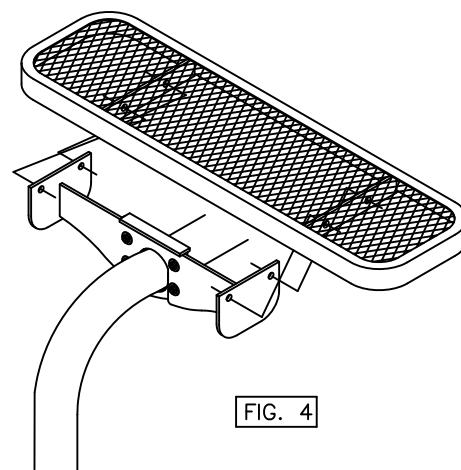

FIG. 4
Place the seat (B-) on the Spyder leg seat assembly (C2) so that the seat's mounting brackets are outside the seat assembly's mounting brackets, see FIG. 4. Secure using one (F), (I), (J) and two (H) per each (F). Level all seats and top, and tighten with proper wrenches.